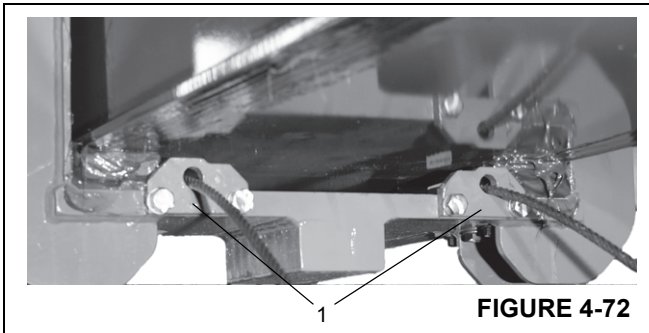

FIGURE 4-72
- 20. Attach fly retract cable anchors to the nose of the inner mid section (Figure 4-72, 1).